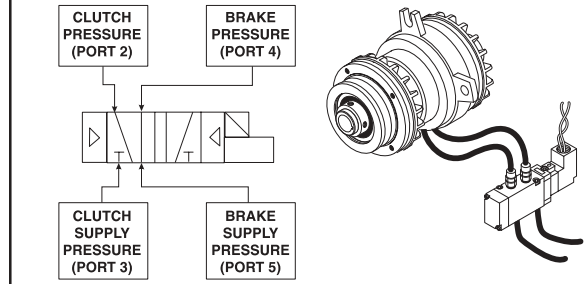

FIGURE 6
1. If the brake is to be set and the clutch is to be OFF when the solenoid is de-energized, connect the port marked 4 to the brake and the port marked 2 to the clutch (See Figure 6).
2. Connect the brake air supply line to the port marked 5 and the clutch air supply line to the port marked 3 (See Figure 6).